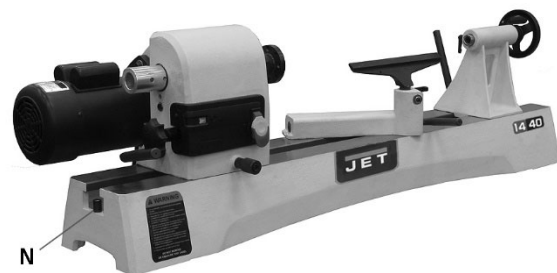

Figure 3
1. Unscrew the stud (N, Figure 3) from each end of the bed.
7. Install headstock, tool support and tailstock, and both studs (N, Figure 3).
To remove headstock, tailstock or toolrest base from bed, unscrew and remove either of the studs (see N, Figure 3). After remounting these items on the lathe, reinstall studs.